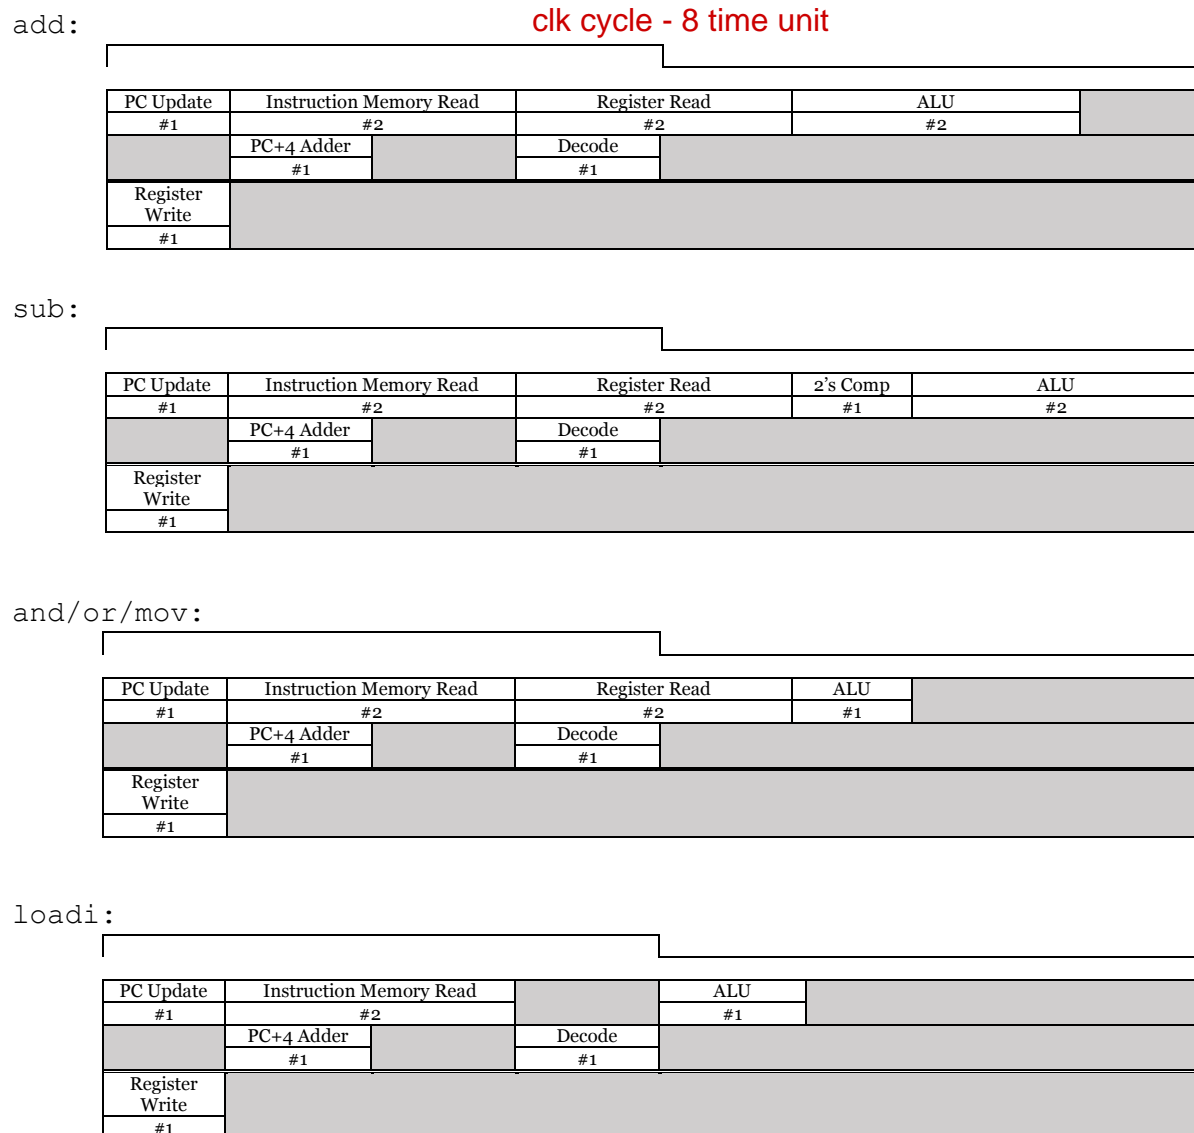

Figure 4: Timing Details for the Datapath
The diagram given in Figure 4 shows the worst-case timing of your single-cycle CPU for the `add`, `sub`, `and`, `or`, `mov`, and `loadi` instructions. One clock cycle spans for eight (8) time units duration, rising edge to rising edge. Every instruction should complete within one clock cycle, and any data to be written to the register file should be ready by the rising edge at the end of the clock cycle. Writing to registers and PC should be synchronized to rising edges of the clock, while reading of registers should happen asynchronously. The given timing delays should be artificially added to the corresponding operations in order to realistically simulate the latencies observable in a synthesized datapath. For the sake of simplicity, we will be assuming that our multiplexers and wires have negligible delays.